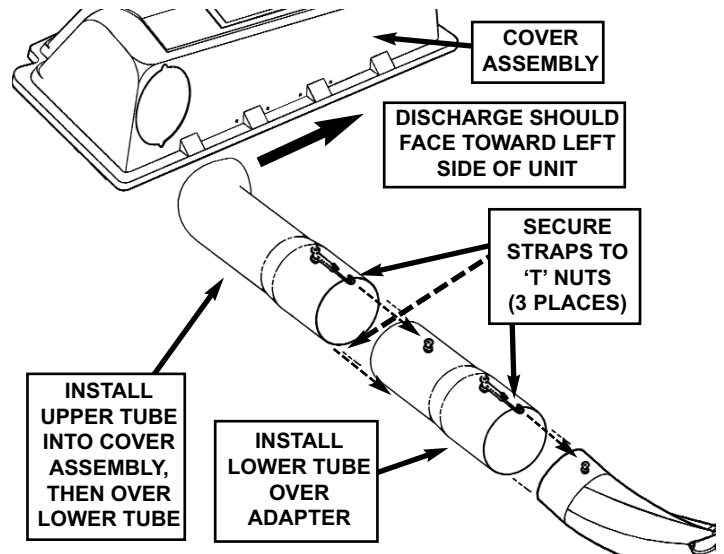

FIGURE 17
c. Install the large end of the lower tube (short, straight tube) onto the end of the adapter, and secure the strap on the tube to the tee nut on the adapter. See Figure 17.
d. Install the curved end of the upper tube into the hole in the cover assembly, making sure the discharge faces toward the left of the unit. Install the bottom of the upper tube onto the top of the lower tube, and secure the two straps on the upper tube to the two tee nuts on the lower tube. See Figure 17.